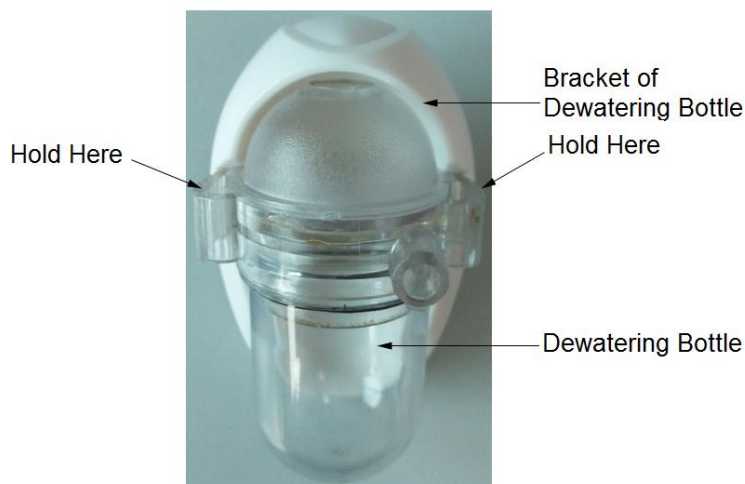

Figure 6.44 Dewatering Bottle Attaching and Detaching Diagram
1. Attach a water tank to a base firmly and connect the CO₂ measuring assembly, shown in Figure 6.44
2. As shown in Figure 6.44, hold the two ends of dewatering bottle and gently pull the tube down to remove water.